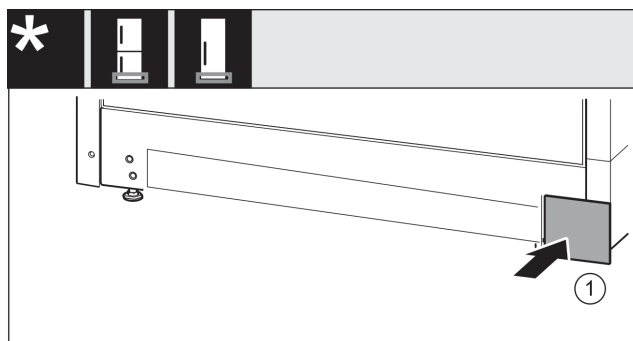

Fig. 22
- Re-attach the cover Fig. 22 (1) to the other side.